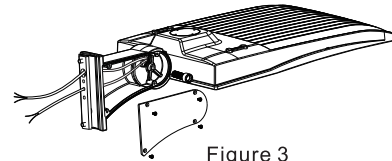

Figure 3
Step 1: Remove the mounting screws on the fixture, open the side lid of mounting and run the wires through the mounting. (Figure 3)